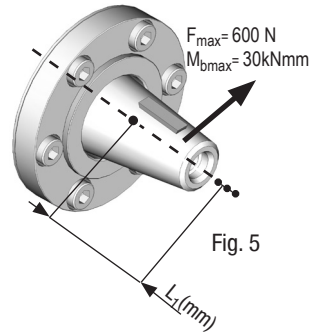

Fig. 5
- The engagement force applied by the belt tension (see Fig. 5) must not exceed  $F_{\text{max per.}} = 600 \text{ N}$ .
- If the force engagement point shifts to the right (see Fig. 5, small point), the force  $F_{\text{max per.}}$  reduces as per the following formula: